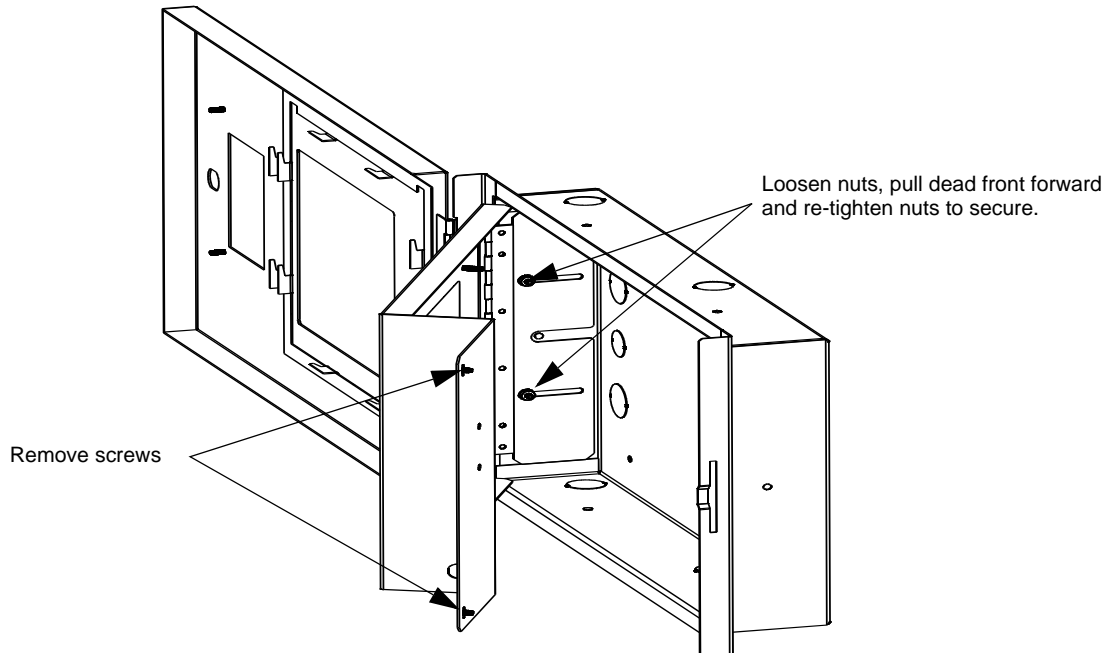

Figure 2 TR-RPU Dead Front Open 180°
4. Tighten the two nuts. The dead front panel will be able to swing open at 180°. Refer to Figure 2.